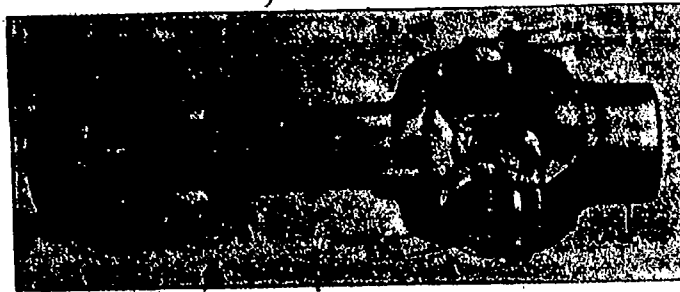
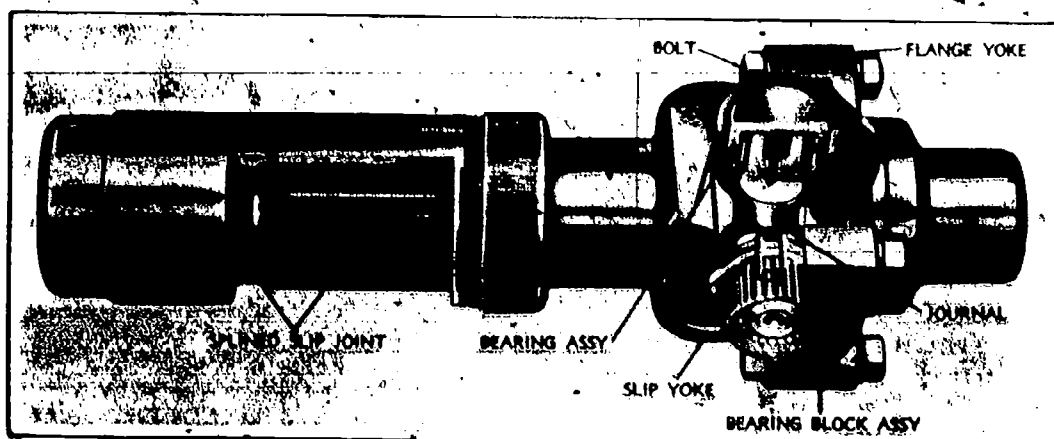

Fig 3-32. Journal-type universal joint with journal assembly in shaft and slip yoke.
Fig 3-33. Journal-type universal joint with journal attached to flange yoke.
- (2) Journal-type universal joint. There are several variations of the journal-type universal joint, two of which are shown in figures 3-32 and 3-33. The universal joints of this type vary from each other mainly in the manner in which the journal is attached to the driving and driven yokes. For example, in the universal joint shown in figure 3-32, the journal is assembled in the shaft and slip yokes; the bearing assemblies are inserted from the outside, and are secured by spring bearing retainers inside the yokes. The bearings on the transverse ends of the journal are clamped to the flange yokes and secured outward movement by bearing retainers. The universal joint shown in figure 3-33 differs from that shown in figure 3-32 in the manner in which the journal is attached to the flange yoke. In this universal joint, the bearing assembly is contained in bearing blocks. The blocks are mounted against the flange yokes and secured with bolts extending longitudinally through the yokes.